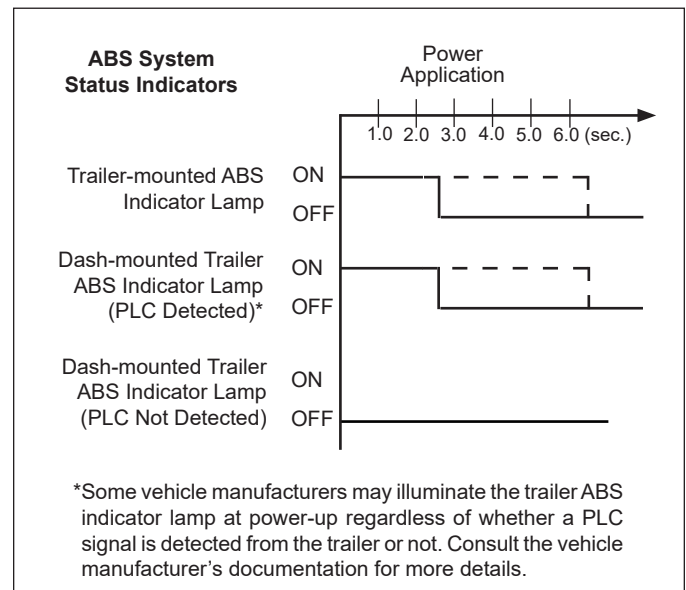

Figure 8 – Trailer Antilock Braking System (ABS) Lamp Power-Up Sequence
See Figure 8. At power-up, with no active Diagnostic Trouble Codes (DTC), the trailer ABS indicator lamp will illuminate for approximately two (2) to six (6) seconds as a bulb check and then turn off. If any active DTCS related to ABS or Bendix® Trailer Roll Stability Program (TRSP®) are present, the trailer ABS indicator lamp will remain illuminated. For non-ABS or TRSP-related DTCs at power-up, such as auxiliary functions, the trailer ABS indicator lamp will turn on for approximately six-and-a-half (6.5) seconds as an extended bulb check and then turn off. If a PLC-ready towing vehicle and trailer are powered at the same time, the TABS-8 Advanced Module will also trigger a bulb check on the dash-mounted trailer ABS indicator lamp.